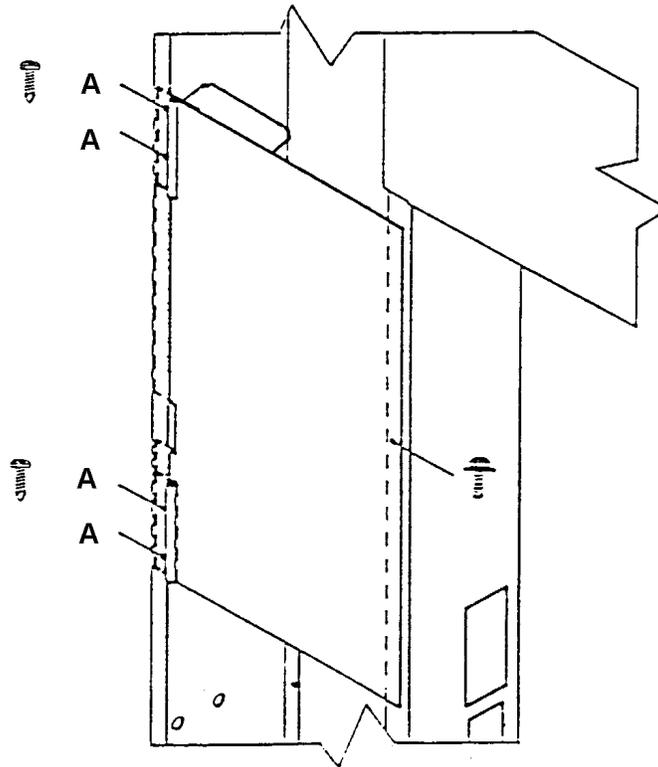

Figure 1
2. Place the validator door and hinge assembly in position with the hinge on the left. See figure 1.
3. Mark the four hole locations, labeled "A" in figure 1, on the main door flange.